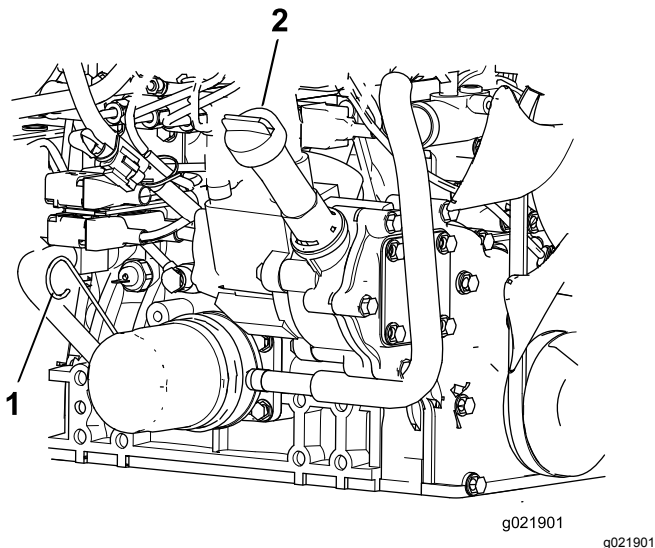

Figure 71
3. Remove the dipstick, wipe it clean, install the dipstick into the tube, and pull it out again. The oil level should be between the FULL and ADD marks (Figure 71).
4. If the oil level is low, remove the fill cap and add oil until it is between the FULL and ADD marks (Figure 71).